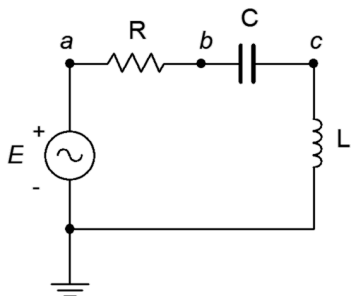

Figure 2.20
35. For the circuit of Figure 2.20, determine the circulating current and the voltages across each component. The source is a 10 volt peak sine at 20 kHz, $R = 200 \Omega$, $C = 100 \text{ nF}$ and $L = 1 \text{ mH}$.
36. For the circuit of Figure 2.20, find v_b and v_{ac} .
64. Assume that you are troubleshooting a circuit like the one shown in Figure 2.20. E is a 2 volt peak sine at 2 kHz, $R = 390\ \Omega$, $C = 100\ \text{nF}$ and $L = 25\ \text{mH}$. The circulating current measures approximately 4 mA with a lagging phase angle of just under -40 degrees. What is the likely problem?
65. Given the circuit shown in Figure 2.20, find the values for C and L if the source is a 6 volt sine wave at 1 kHz, $R = 2\ \text{k}\Omega$, $v_R = 4\ \text{V}$ and $v_L = 5\ \text{V}$.